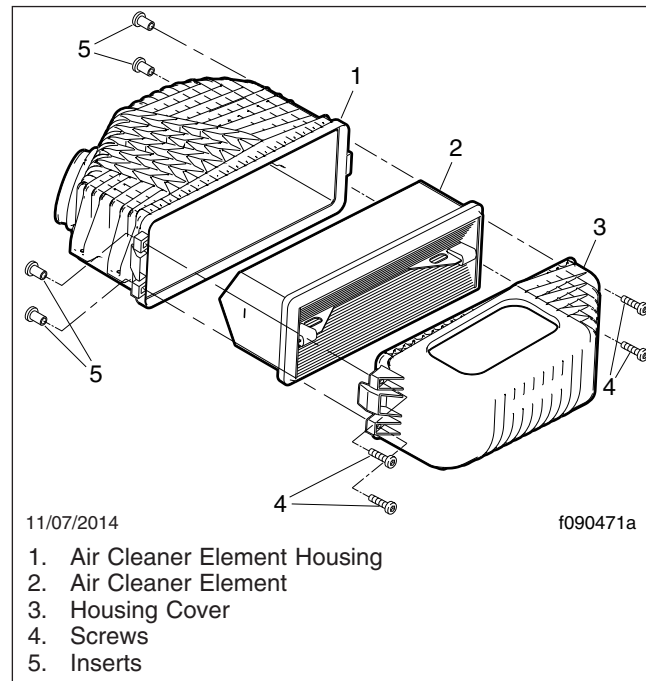
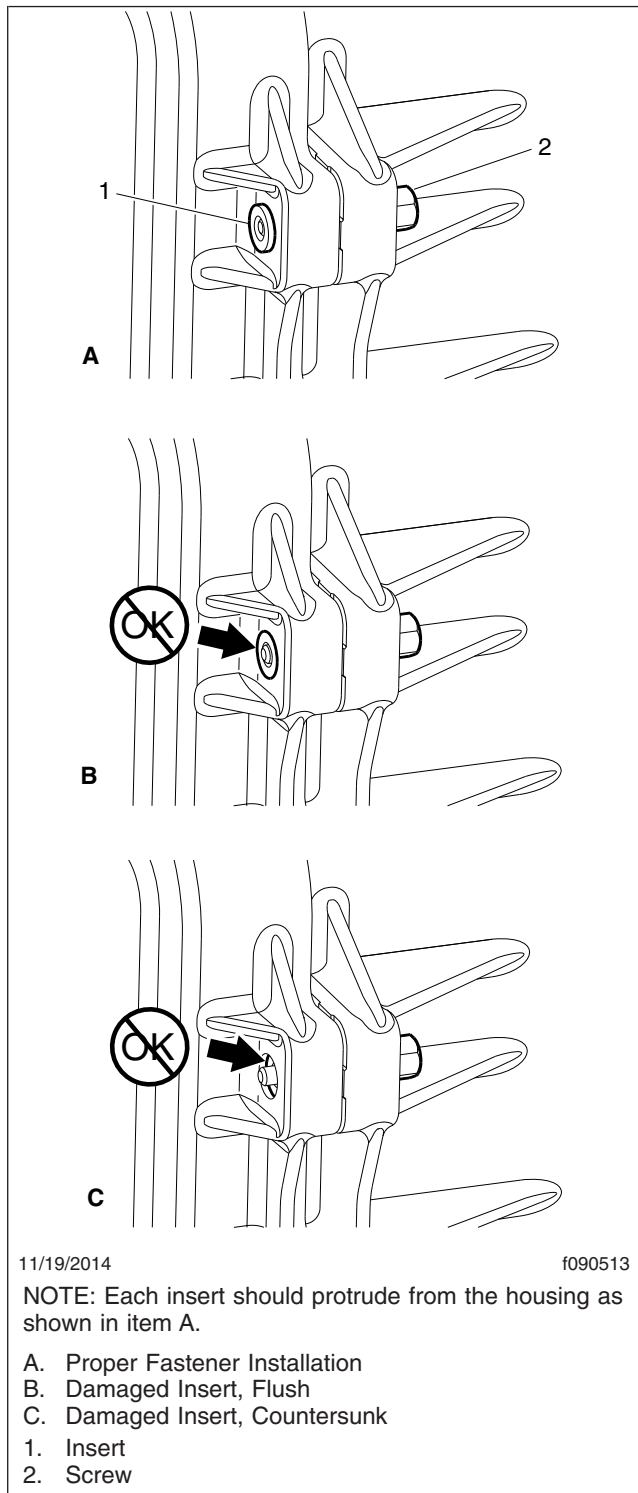

Fig. 8, Air-Cleaner Assembly, 5700 Models
Fig. 9, Air-Cleaner-Housing Fasteners, 5700 Models
3. Check the inserts at all four assembly fastener locations (see **Fig. 8**). Each insert should protrude from the housing as shown in **Fig. 9**.